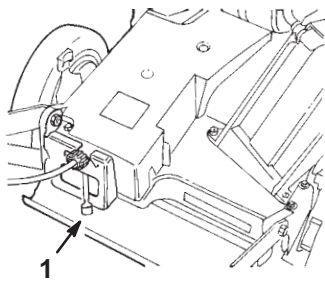

Figure 9
3. **Self-propelled model only:** Move ground speed control to  (NEUTRAL) setting (Fig. 9).
Ground speed control is located at rear of belt cover (Fig. 9).